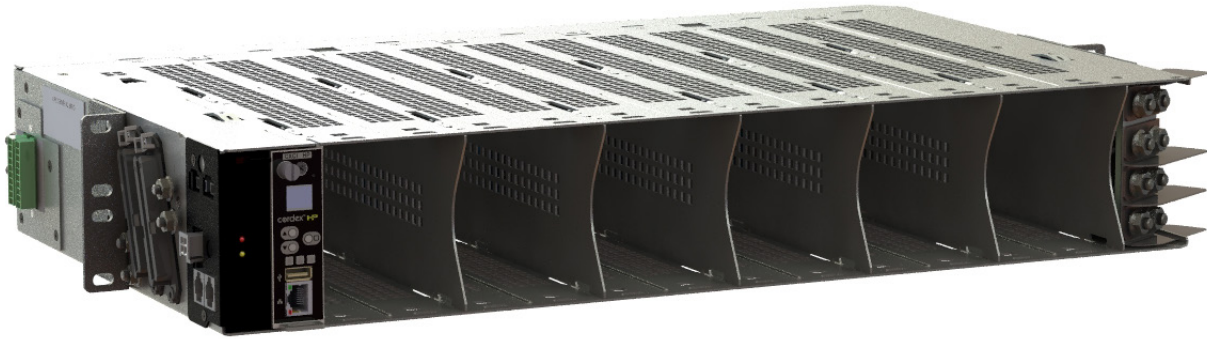

Figure 3 — LPS36 Shelf (23" shown)
Due to shelf size constraints, only two(2) relays are accessible from the CXCI HP controller. However, there are two(2) additional system alarm relays provided with the system, see Figure 3.